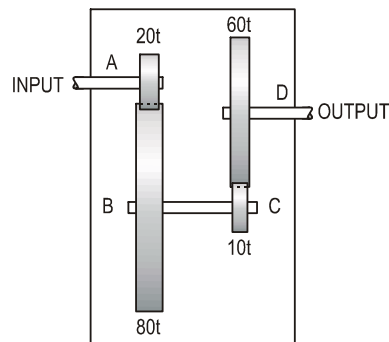

Figure 8
The compound gear system in figure 8 shows how the shafts are connected between the 'pairs' of gears. Gears B and C are connected and rotate at the same speed. To calculate the velocity ratio for the gear train it is necessary to calculate the ratio for each pair of meshing gears.
- Sketch your gear train graphically (as in figure 8).